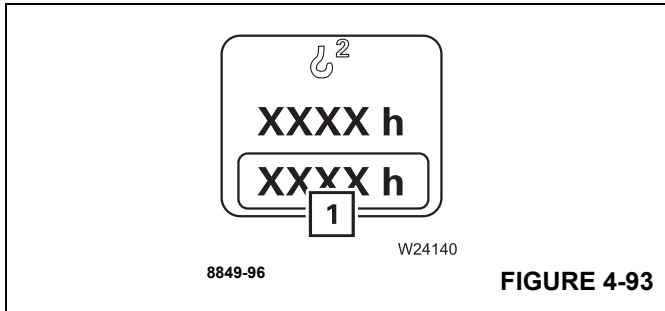

FIGURE 4-93
You can have the operating hours (1), (Figure 4-93) of the hoist displayed, refer to *Operating Hours Menu*, page 3-42.